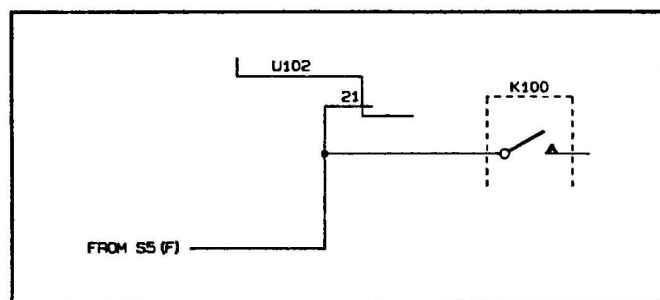

Figure 7-4. Schematic 2 Changes (Change #8)
**7-29. Schematic 2 Changes.** Delete R119\* as shown in Figure 7-4.